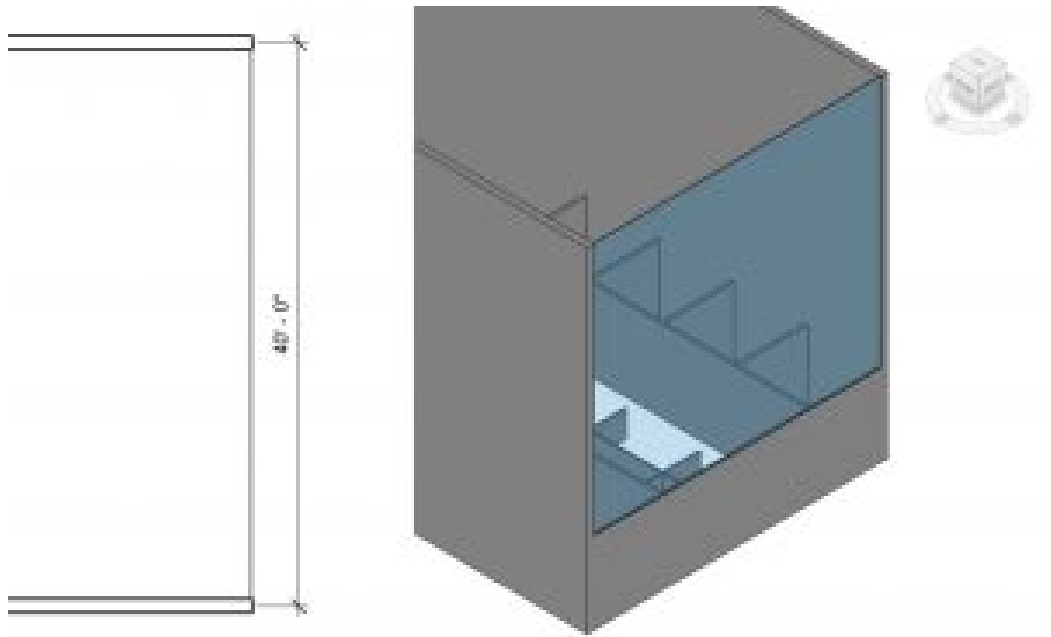

Figure 2.29 Curtain Wall 1 shown in plan view and in 3D view
6. Draw one wall as shown in Figure 2.29